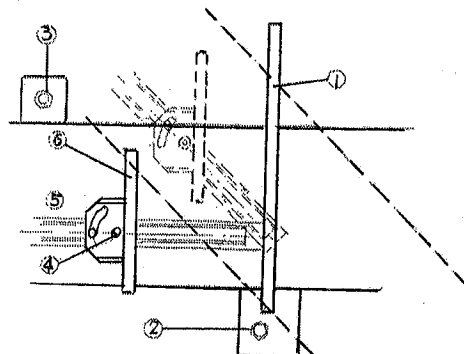
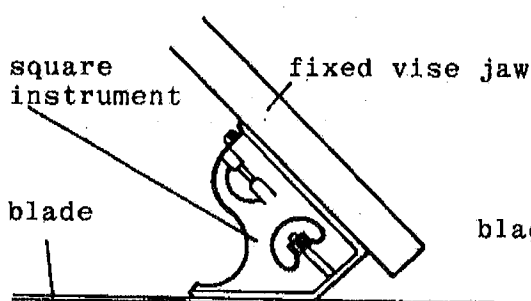

Fig. 5 Vise Adjustment for 45° Miter Cutting
Fig. 6 45° Miter Cutting
Clamp material securely by turning vise hand wheel clockwise. The vise allows great flexibility in cutting by setting the No. 1 position in Fig. 5, the cutting at any degree is possible by adjusting the fixed and movable vise jaw. The vise can be moved up to 45°, which is the No. 2 position in Fig. 5.
- 3) Loosen the two lock bolts (No. 2 and No. 3 in Fig. 5) of the fixed vise jaw, then adjust the fixed vise jaw 45° against saw blade with an accurate square instrument (Fig. 6). Tighten the two lock bolts.